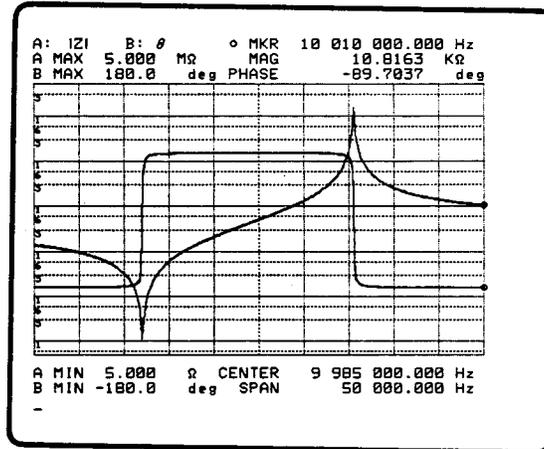

Figure 3-160. F Characteristics Calculation and Measurement Data
10. Press the '**SIMULATE f CHAR**' softkey. The "Calculating f characteristics" message is displayed for several seconds. Then the "Calculation complete" message will be displayed, and the calculated frequency characteristics and the measurement data taken in step 4 will be displayed together, see Figure 3-160. If the calculated parameters are very accurate, the calculated characteristics and the measurement data will overlap.